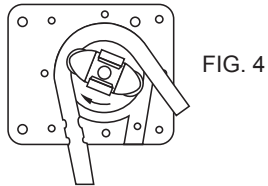

FIG. 4
8. Continue to rotate the roller bracket assembly while pushing the tubing into the roller race (Fig. 4).